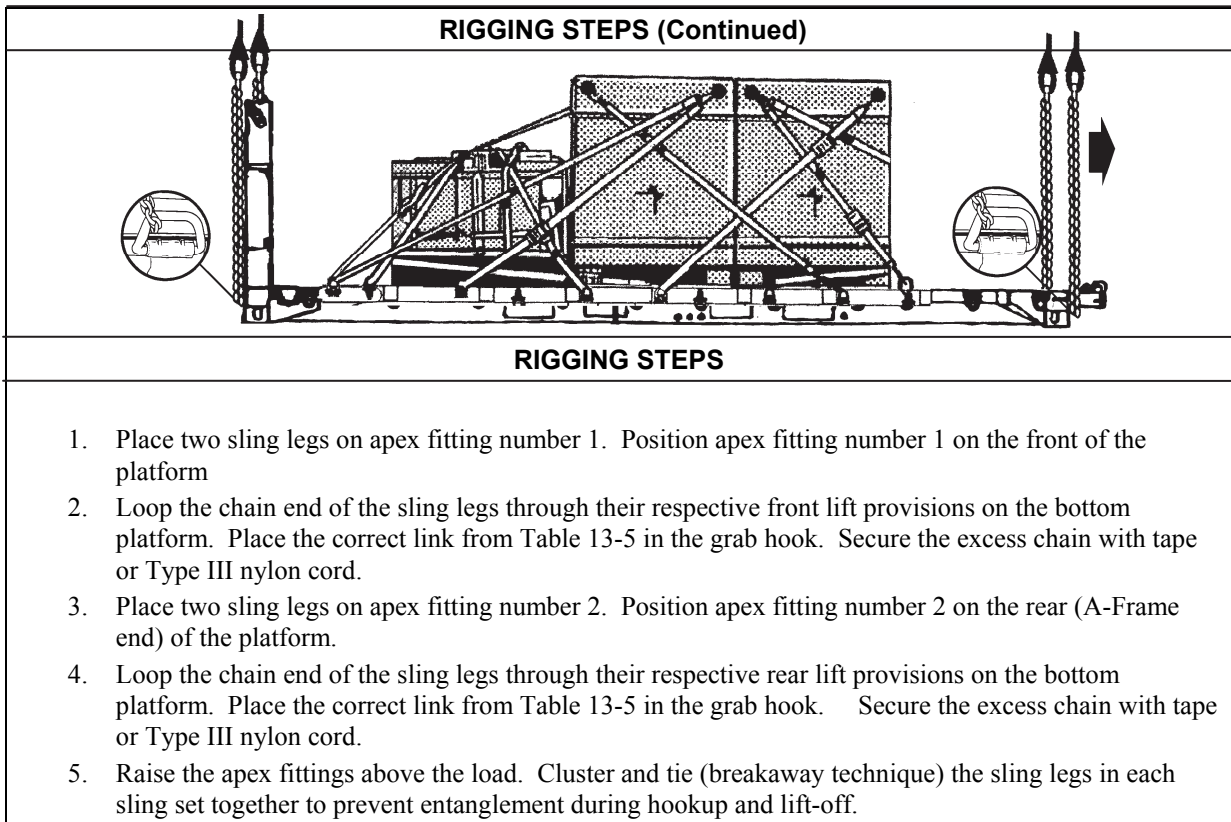

Figure 13-5. Container Roll-In/Out Platform, Loaded
- **Rigging.** Rig the load according to the steps in Figure 13-5.